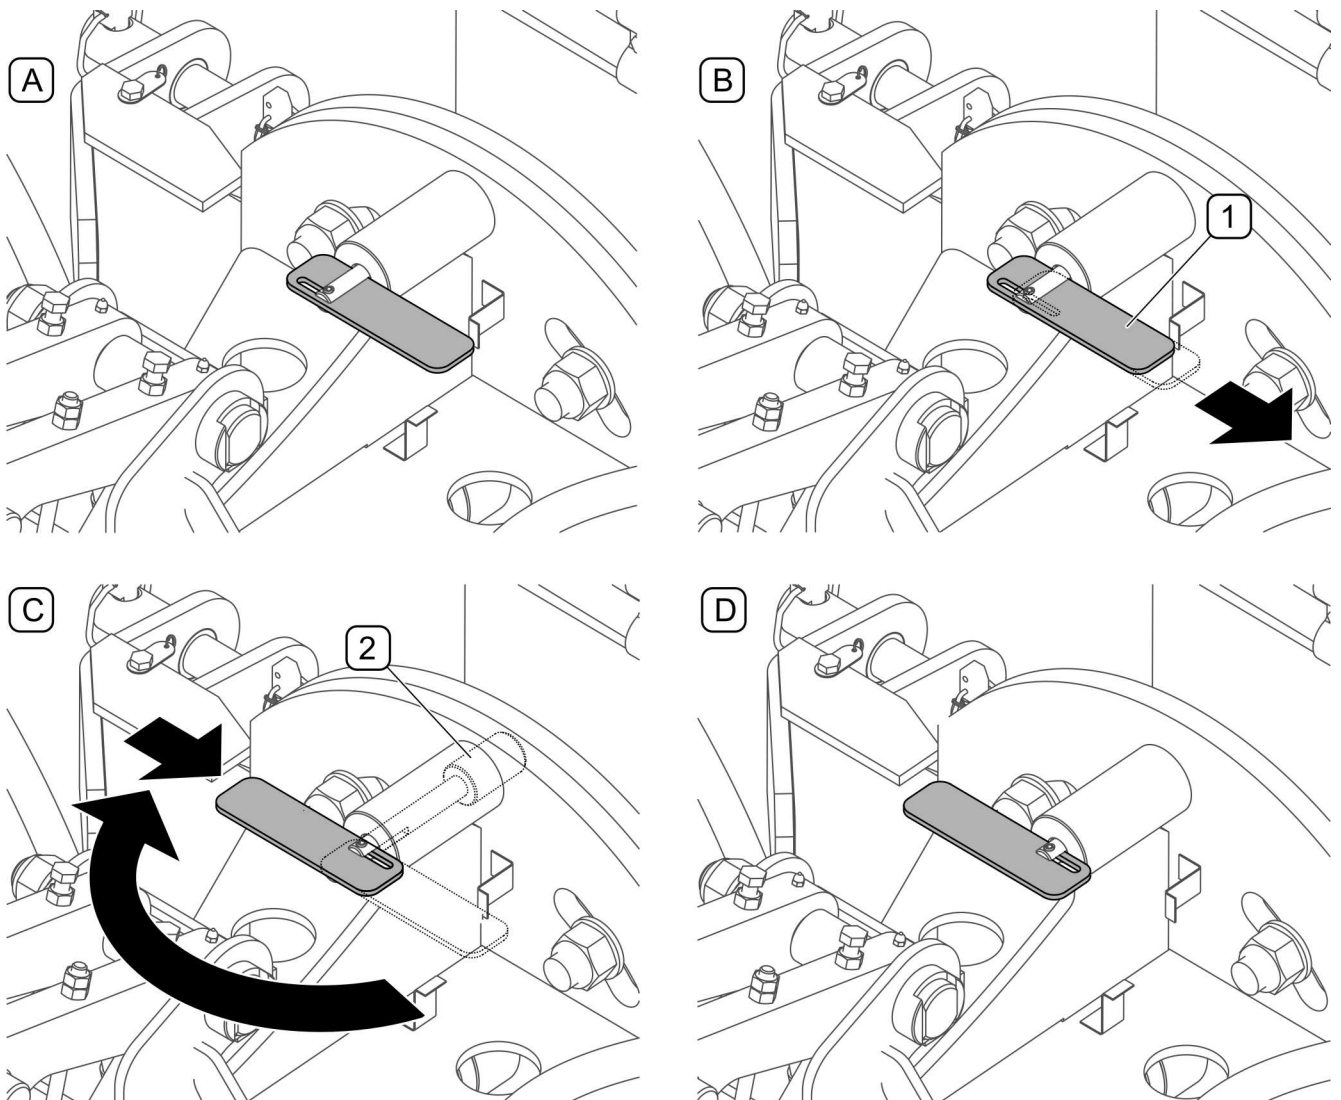

FIGURE 4.12 Lock the transport position
In ploughs with (pivot) three-point linkage cat. II-III, lock linkage (FIGURE 4.12) when transporting a raised plough to prevent it tilting to the sides. In order to do this:
- Move the latch bracket (1) in the extreme outer position of the oblong hole (FIGURE 4.12, B)
- Turn bracket by 180°, latch bolt (2) will be inserted in the lock (FIGURE 4.12, C)
- Move the lock handle (2) in the extreme inner position of the inner oblong hole to lock the latch in the closed position.
In ploughs with (*pivot*) three-point linkage cat. II-III before disconnecting from the carrying vehicle it is advisable to lock the linkage system in the transport position (FIGURE 4.12)